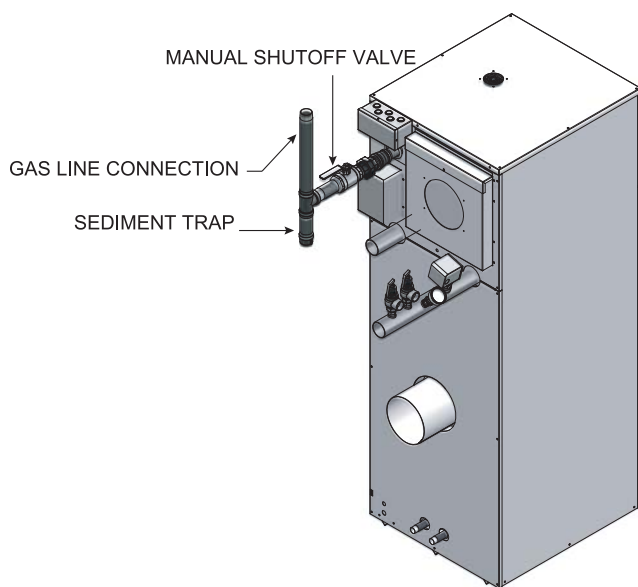

Figure 3-1_ Gas Line Connection with Sediment Trap (Drip Leg) and Manual Main Gas Shutoff Valve
3. If an additional manual shutoff valve is required by local codes, install the valve on the outside at the gas supply to the appliance as shown in FIG. 3-1.
4. A sediment trap (drip leg) **MUST** be provided in the inlet of the gas connection to the appliance, see FIG. 3-1.
4. Install a sediment trap in the supply line to the unit's gas inlet (see FIG. 3-1).